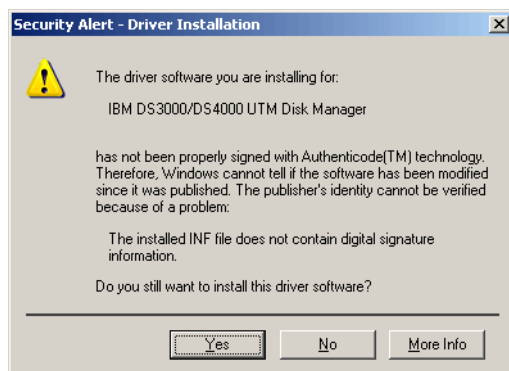

Figure 23-13 Security alert
12. You might see a message (Figure 23-13) indicating that the driver for the UTM LUN is not yet digitally signed. Click **Yes** to continue.